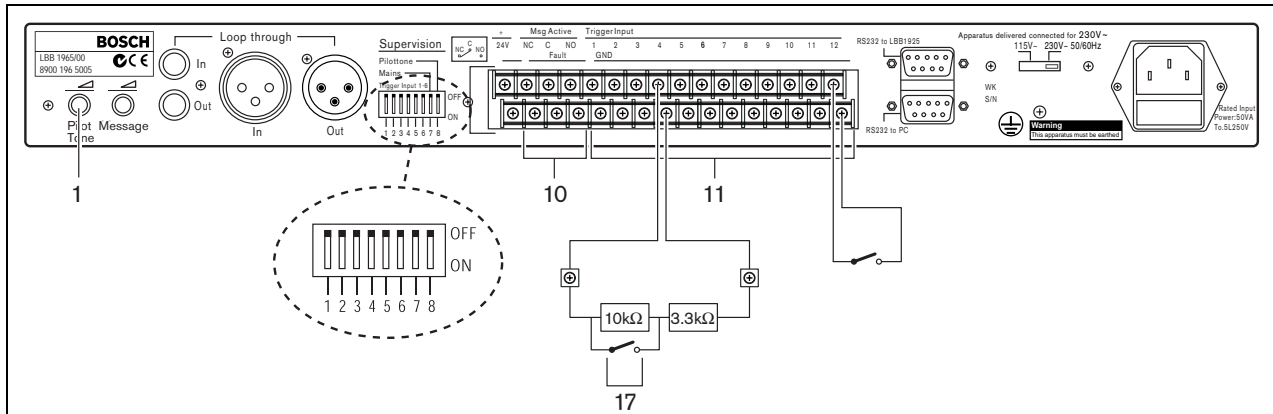

Figure 3.4
Message sequences or announcements are started with make contacts (17). These make contacts are connected to the trigger input screw terminals (11). The cabling of the first six trigger input contacts (1 through 6) can have supervision by means of a window comparator. Normal operation of these inputs requires two series connected resistors of 10 kOhm and 3.3 kOhm, permanently connected to the far end of the cable connected to each trigger input. Triggering occurs by short-circuiting the 10 kOhm resistor as shown in figure 3.4.